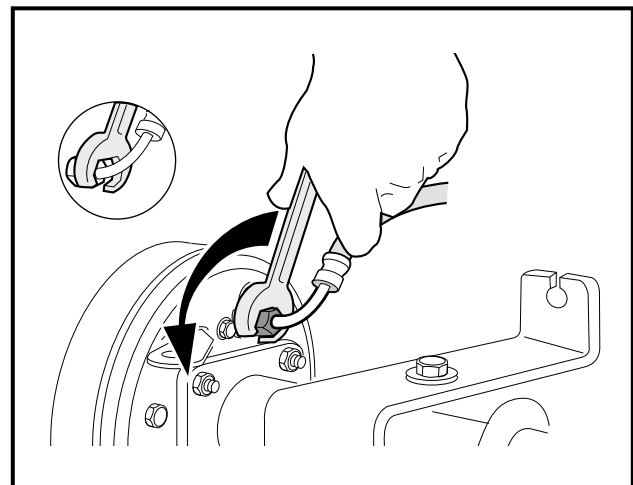

Figure 16b-26 Brake Hose
- 7.2. Remove the cable from the cable support bracket (**Figure 16b-25, Page 16b-14**).